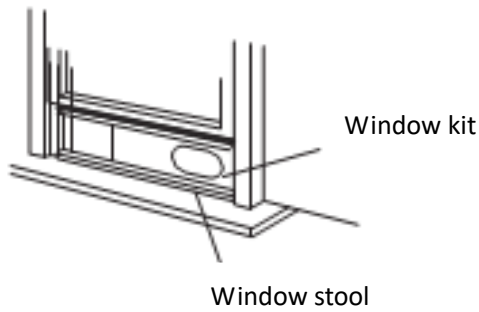

Fig. 10
3. Cut the foam seal (adhesive type) to the proper length and attach it on the top of the window. Shown as in Fig.10